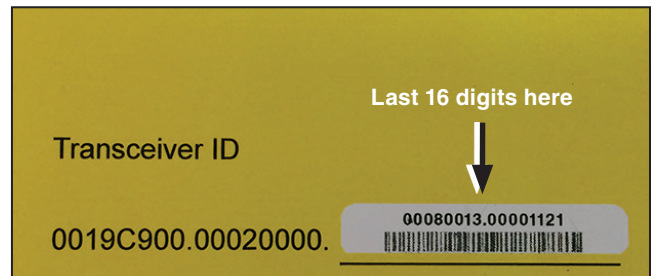

Figure 10. Transceiver ID on yellow tag.
- (c) **Method 3:** The transceiver ID is also printed on the back of the yellow “DO NOT DROP—HANDLE WITH CARE” tag attached to each TripSaver II recloser. See Figure 10.